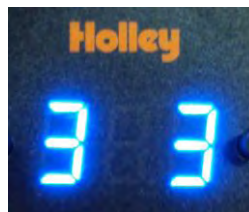

Figure 6
5. **SETTING 3** – This setting is used for the intensity of the LED lights on the gauge with the headlights on (0 = dim and 9 = bright). This shows that you are on the 3rd setting and the level of brightness is 3 (**Figure 6**).